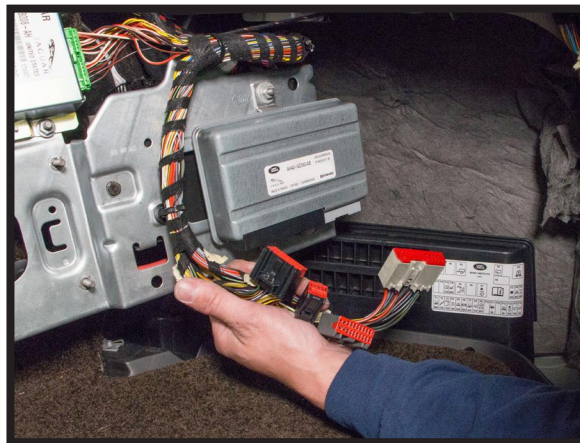

FIGURE 69
4. DISCONNECT THE AIR SUSPENSION CONTROL MODULE. (FIGURE 69)